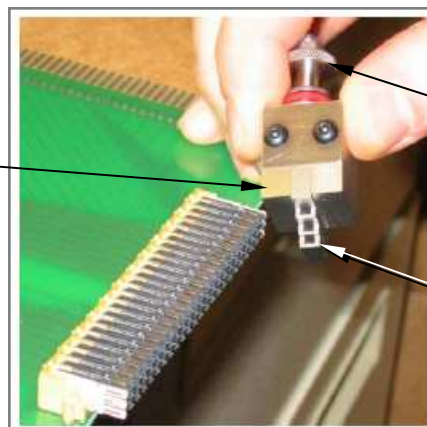

Figure 4
4. Rotate the thumbscrew of the Wafer Extractor counter-clockwise to open the tool. Slide the tool over the first wafer by capturing the tips of the wafer in the three corresponding pockets, (these pockets will hook under the wafer being removed). This will align the support legs over two adjacent wafers and the lower housing. See Figure 4.